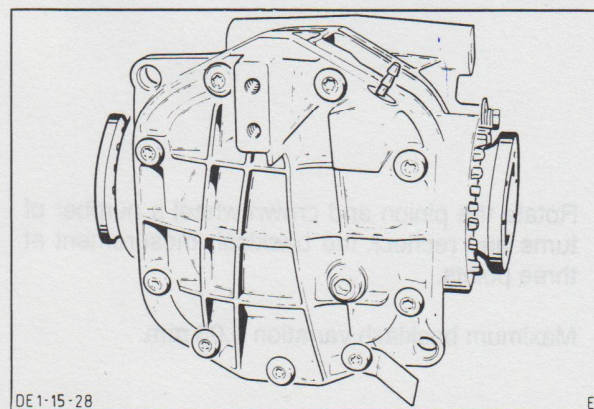

Fig. 70. Attachment of rear axle casing cover.
43. Fit the rear axle casing cover using liquid sealer 1110 B and secure the nine Torx bolts to the specified torque (see Technical Data), Fig. 70.